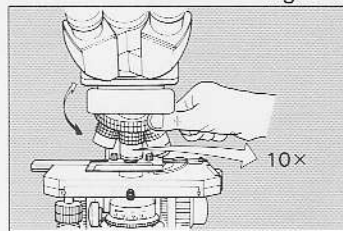

Fig.3-5
- 5) Revolve the revolving nosepiece to put the 10X objective into the optical path. Properly turn the revolving nosepiece so it fits into position (Fig. 3-5).